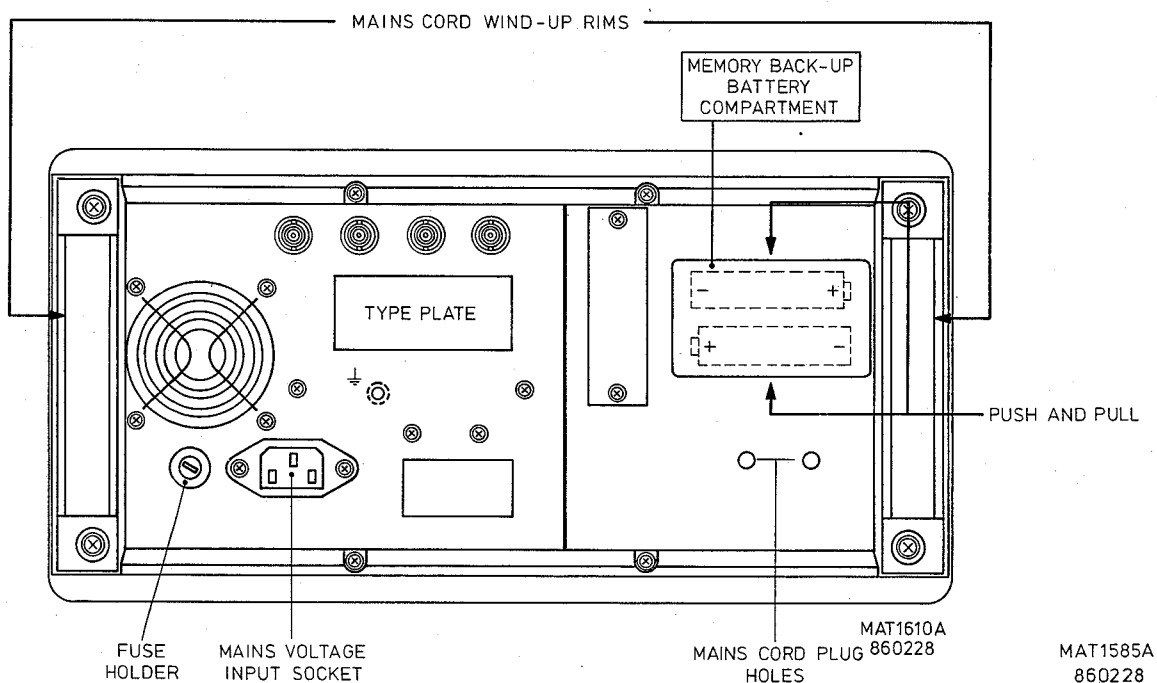

Fig. 3.1. Rear view of the oscilloscope
The mains fuseholder is located on the rear panel (see Fig. 3.1.). If the mains fuse needs replacing, proceed as follows:
- remove the cover of the battery compartment located on the rear panel, by pressing the two locking tongues towards each other and pulling (see Fig. 3.1.). The battery holders are now accessible.
- insert the two penlight batteries, paying attention to the polarity indication marked on the holder (also on Fig. 3.1.). **CHECK POLARITY TO ENSURE CORRECT INSTALLATION!**